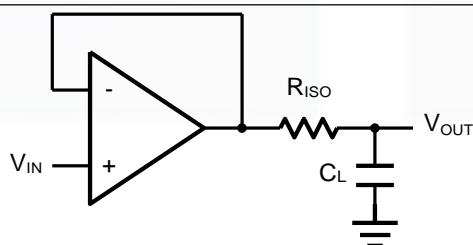
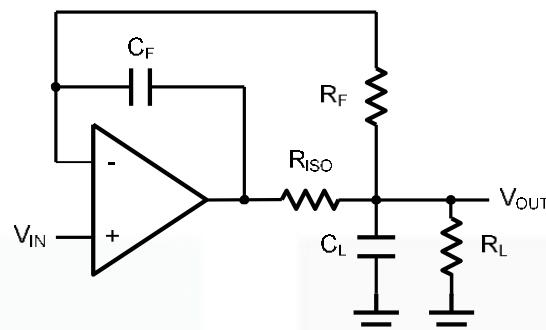

Figure 2. Indirectly Driving a Capacitive Load Using Isolation Resistor
Figure 3. Indirectly Driving a Capacitive Load with DC Accuracy
The MA805X family is optimized for bandwidth and speed, not for driving capacitive loads. Output capacitance will create a pole in the amplifier's feedback path, leading to excessive peaking and potential oscillation. If dealing with load capacitance is a requirement of the application, the two strategies to consider are (1) using a small resistor in series with the amplifier's output and the load capacitance and (2) reducing the bandwidth of the amplifier's feedback loop by increasing the overall noise gain. Figure 2. shows a unity gain follower using the series resistor strategy. The resistor isolates the output from the capacitance and, more importantly, creates a zero in the feedback path that compensates for the pole created by the output capacitance.
The circuit in Figure 3 is an improvement to the one in Figure 2. RF provides the DC accuracy by feed-forward the V_{IN} to R_L. C_F and R_{ISO} serve to counteract the loss of phase margin by feeding the high frequency component of the output signal back to the amplifier's inverting input, thereby preserving the phase margin in the overall feedback loop. Capacitive drive can be increased by increasing the value of C_F. This in turn will slow down the pulse response.